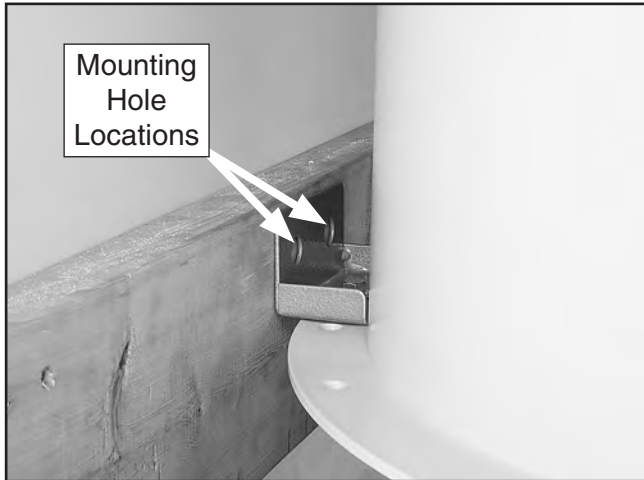

Figure 14. Intake barrel brace positioned to mark the mounting holes.
- Place the intake barrel brace in position and mark the location of the mounting holes (shown in **Figure 14**) with a small pencil, nail, or push pin.